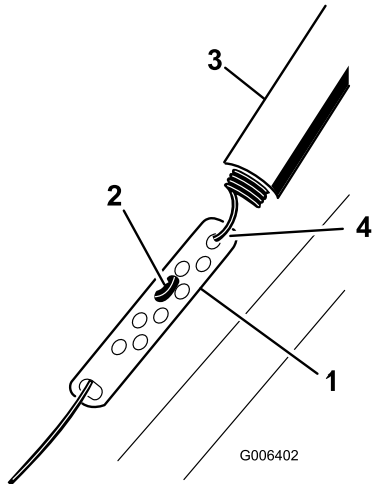

Figure 18
1. Slide up the spring cover and unhook the spring from the adjuster link (Figure 18).